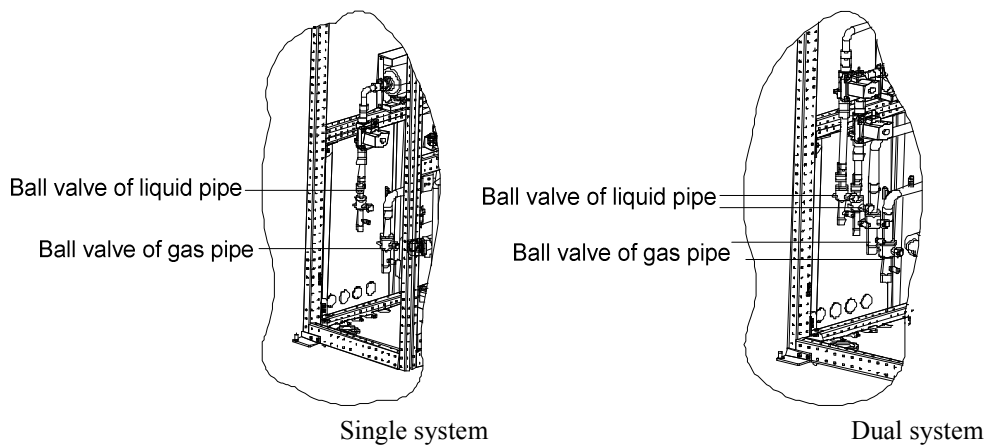

Figure 3-11 Locations of discharge pipe and ball valve in liquid pipe
2. Connect the copper pipes in welding mode. The connection ball valves of the discharge pipe and liquid pipe of indoor unit are shown in Figure 3-11. Many notes and instruction labels are pasted onto the base and side panel close to the ball valve. Note that the ball valve must be wrapped with a wet cloth before welding to protect the label from burned during the welding operation.